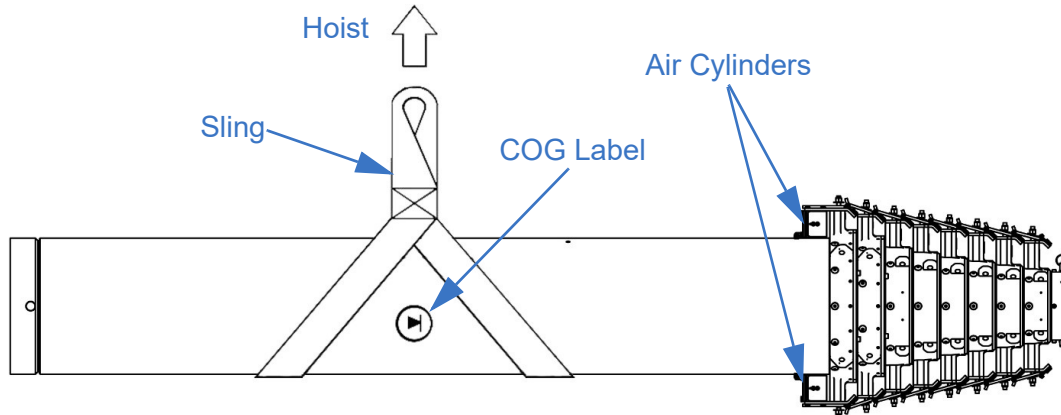

Figure 5-3 Hoist the Mast
5. Using the center of gravity (COG) label as a reference, outfit the mast with a sling capable of supporting the mast weight (Figure 5-3). The sling must support the mast from at least two points. Attach the sling so that horizontal balance and control can be maintained while positioning the mast. Hoist and slowly lift the mast until just free of the mast saddles. Lower the mast and adjust the sling as necessary to balance the mast. Hoist the mast free from the crate and carefully move the mast into the desired position.